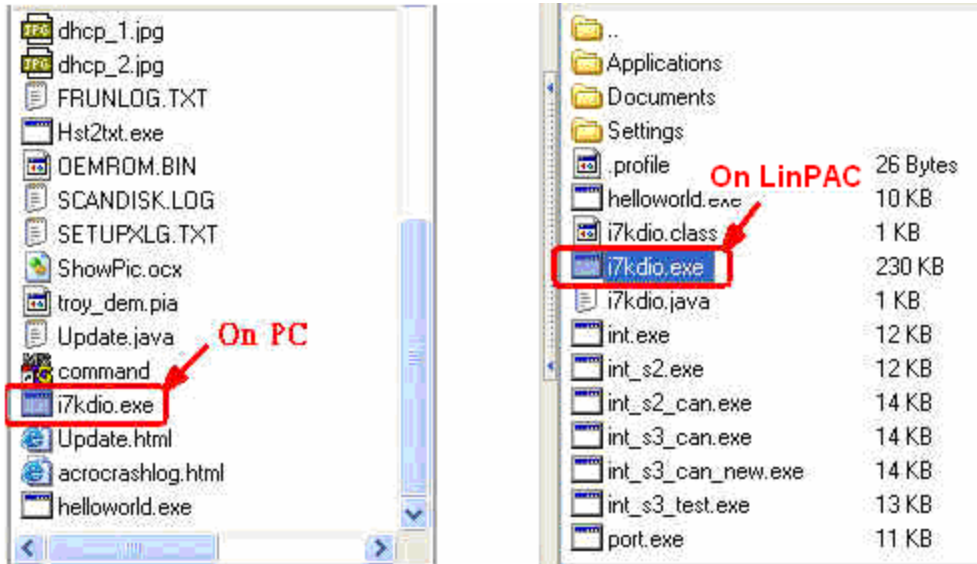

Fig.7-4
Step2: Upload the file **i7kdio.exe** file to the LP-9x21. (refer to Fig.7-4).